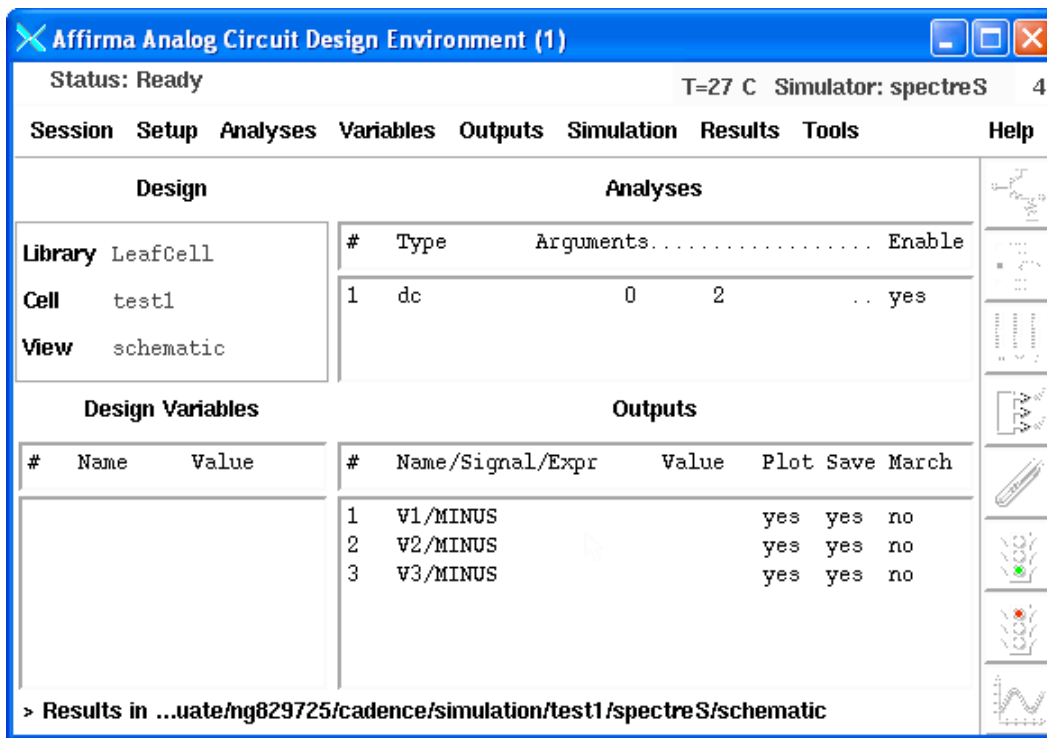
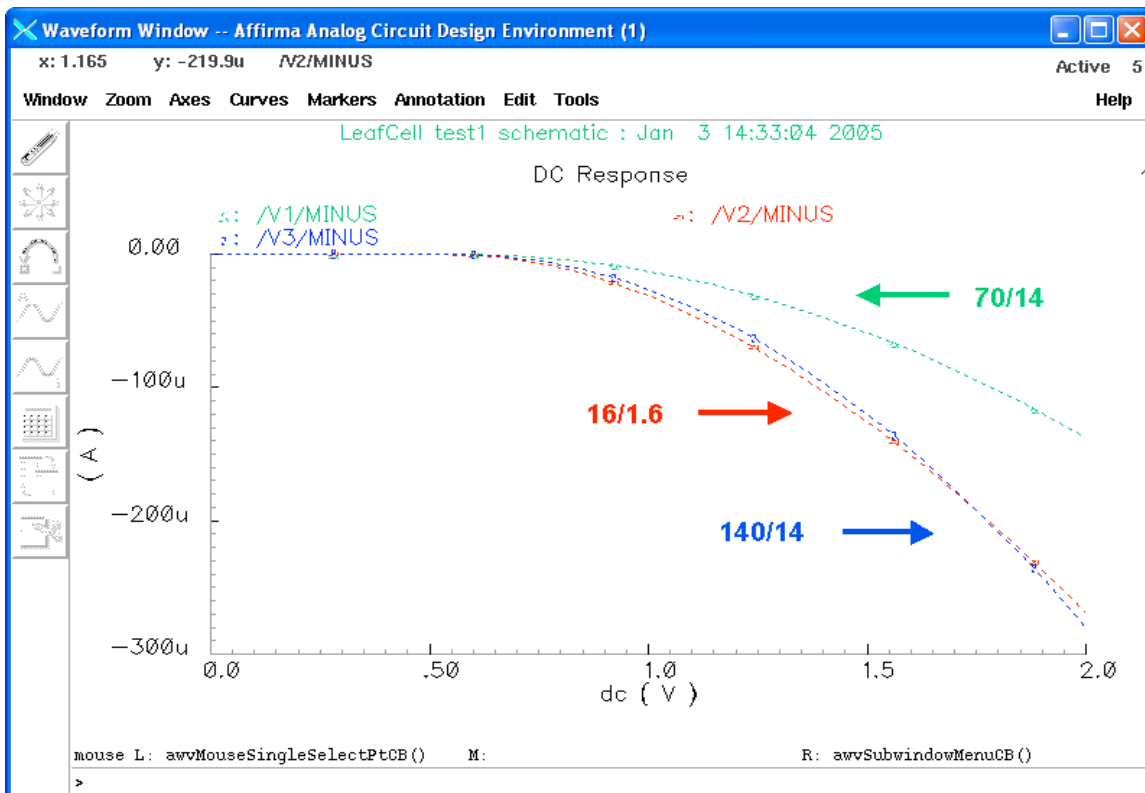

Figure 152: Setting up for simulation for test1.
Figure 153: Test1 simulation waveform.
3. Set up the Analog Environment as in Figure 152. Then run it. Simulation results are shown in Figure 153.